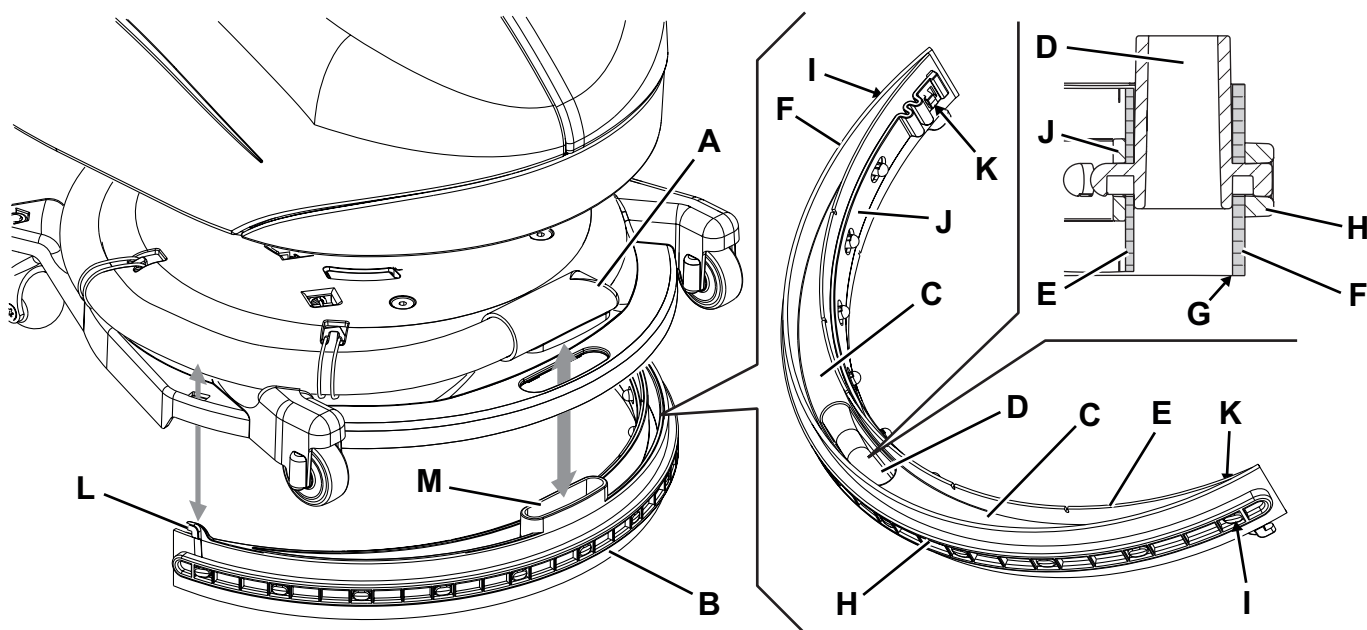

Figure 6
2. Check that the function selection knob (31) is turned to "0" and disconnect the battery connector (7).
3. Fully turn the brush/pad-holder deck (12) counter-clockwise.
4. Disconnect the vacuum hose (A, Fig. 6) from the squeegee.
5. Disengage the squeegee (B) from the deck.
6. Wash and clean the squeegee. In particular, clean the compartments (C) and the vacuum hole (D).
7. Check the front blade (E) and the rear blade (F) for integrity, cuts and tears; if necessary replace them (see the procedure in the following paragraph).
2. Check the front blade (E, Fig. 6) and the rear blade (F) for integrity, cuts and tears; if necessary replace them. Check that the front corner (G) of the rear blade is not worn; otherwise, overturn the blade to replace the worn corner with an integral one. If the other corners are worn too, replace the blade as shown:
- Remove the fastening strap (H) by disengaging it from the fasteners (I).
- Replace (or overturn) the rear blade (F), then reinstall the fastening strap.
- Remove the fastening strap (J) by disengaging it from the fasteners (K).
- Replace (or overturn) the front blade (E), then reinstall the fastening strap.
3. Install the squeegee (B) by carefully inserting the hooks (L) and the vacuum hole (M) in the brush deck housings.
4. Connect the vacuum hose (A) to the squeegee.